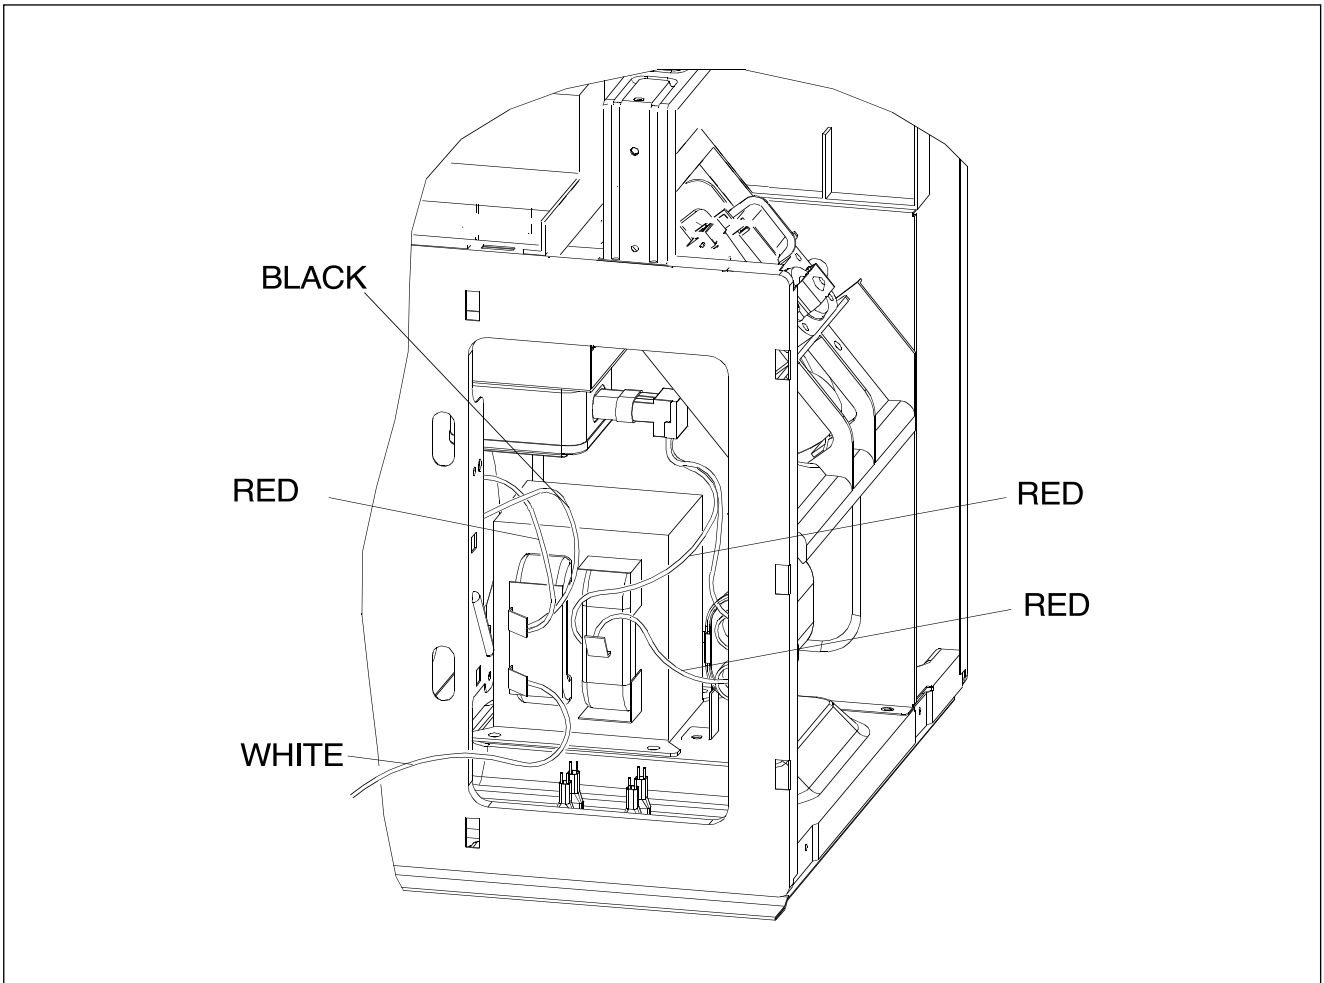

FIG. 17-1
Refer to FIG. 17-1 for the following steps:
7. Connect 5 wire connectors going to the high-voltage capacitor, the high-voltage transformer, and the magnetron as shown in FIG.17-1.